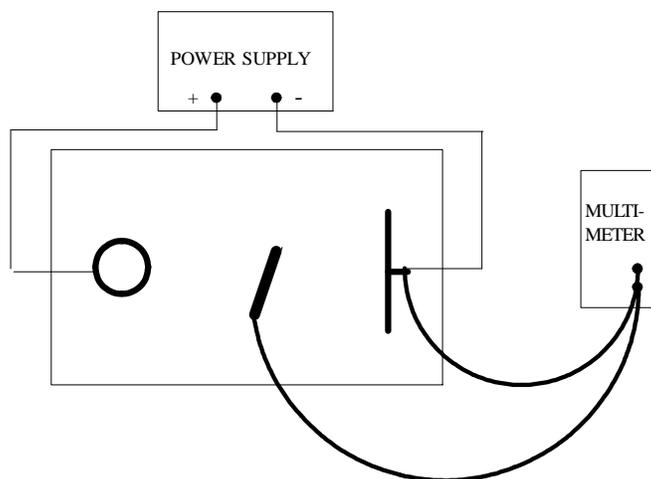

Figure 2
1. Spend a few moments familiarizing yourself with the experimental setup and apparatus as shown in Figure 2. A power supply and a digital multimeter are connected to two conductors which are indicated in Figure 2 by the heavy dark lines. Also shown are the sheet of conductive paper on which the two conductors sit, and the red probe with its conducting tip. Upon examining the conductive sheet you will notice a grid of blue crosses and x- and y- axes along the edges of the sheet. Your lab instructor will supply you with two pieces of white paper which are replicas of the grid on the conductive sheet. It is on these sheets of paper that you are to draw the conducting electrodes, the equipotential lines, and the electric field lines, not on the conductive paper!
2. In this experiment you will obtain the equipotential and electric field lines for two different conducting electrode shapes, one of which is shown in Figure 2. You will obtain these lines as described below, but before proceeding further, it is essential that you recognize the following. You are to collect your data by carefully touching the probe to various points on the conductive paper, **but you must NOT damage the conductive paper in any way**. Your lab instructor will explain further as required.
7. For electrode patterns where there is a conductor with an interior region, such as that of Figure 2, be sure to measure the values of the potential at points on the inside of the conductor. Also label the positive and negative conductors.